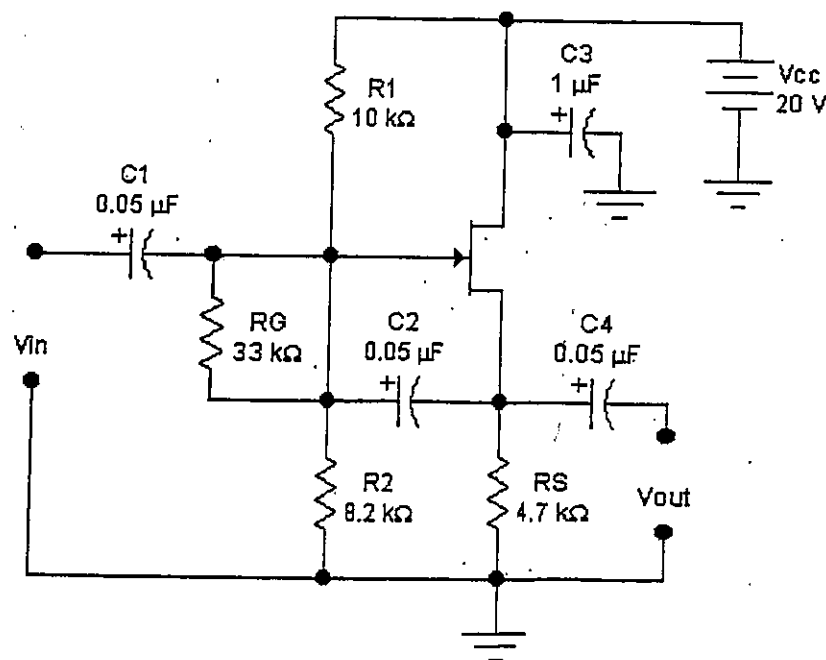

Fig 10.2
- 1- Connect the circuit of Figure 10.2.
- 1- Setup the circuit of Figure 10.2 using (Electronics Workbench Software).
- 3- Draw the equivalent AC model for the circuit of Figure 10.2.